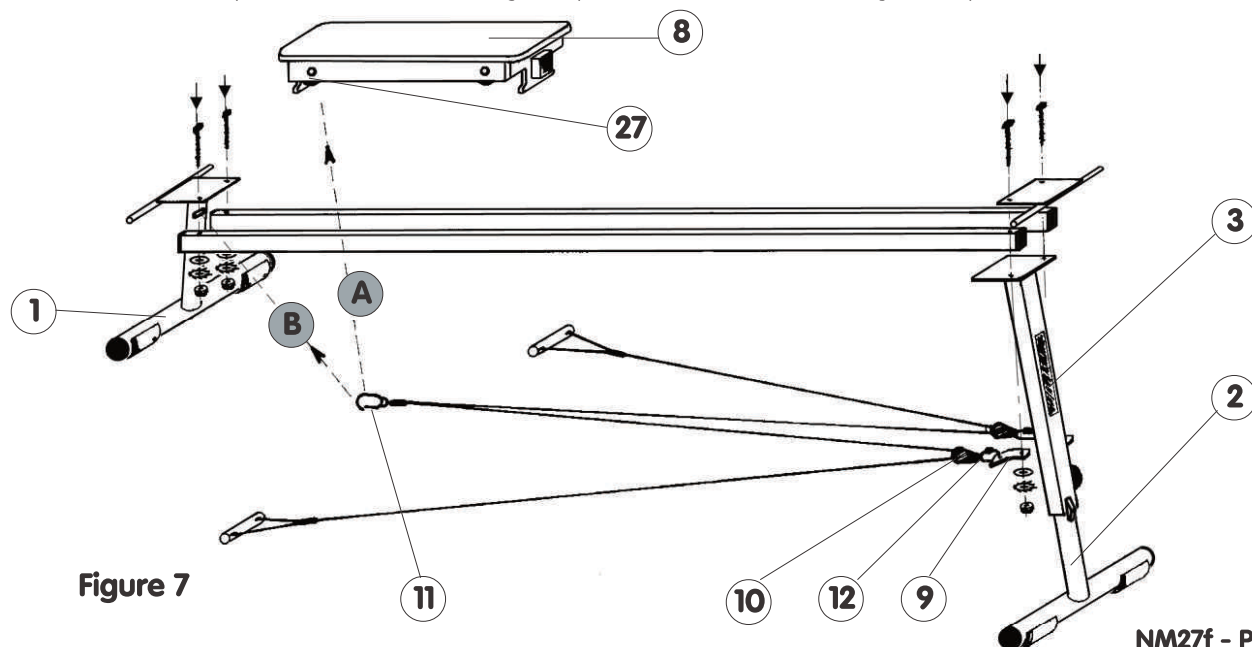

Figure 7
- 2 - Insert the carriage (8) in the direction indicated by the stud (27) (see Fig. 7) before fully assembling the rails (4) onto the other leg.
- 2 - Insert the carriage (8) in the direction indicated by the stud (27) (see Fig. 7) before fully assembling the rails (4).
### III. Assembling the ropes on the strength training bench (ref.: 2261 & 2262) (Figure 7):